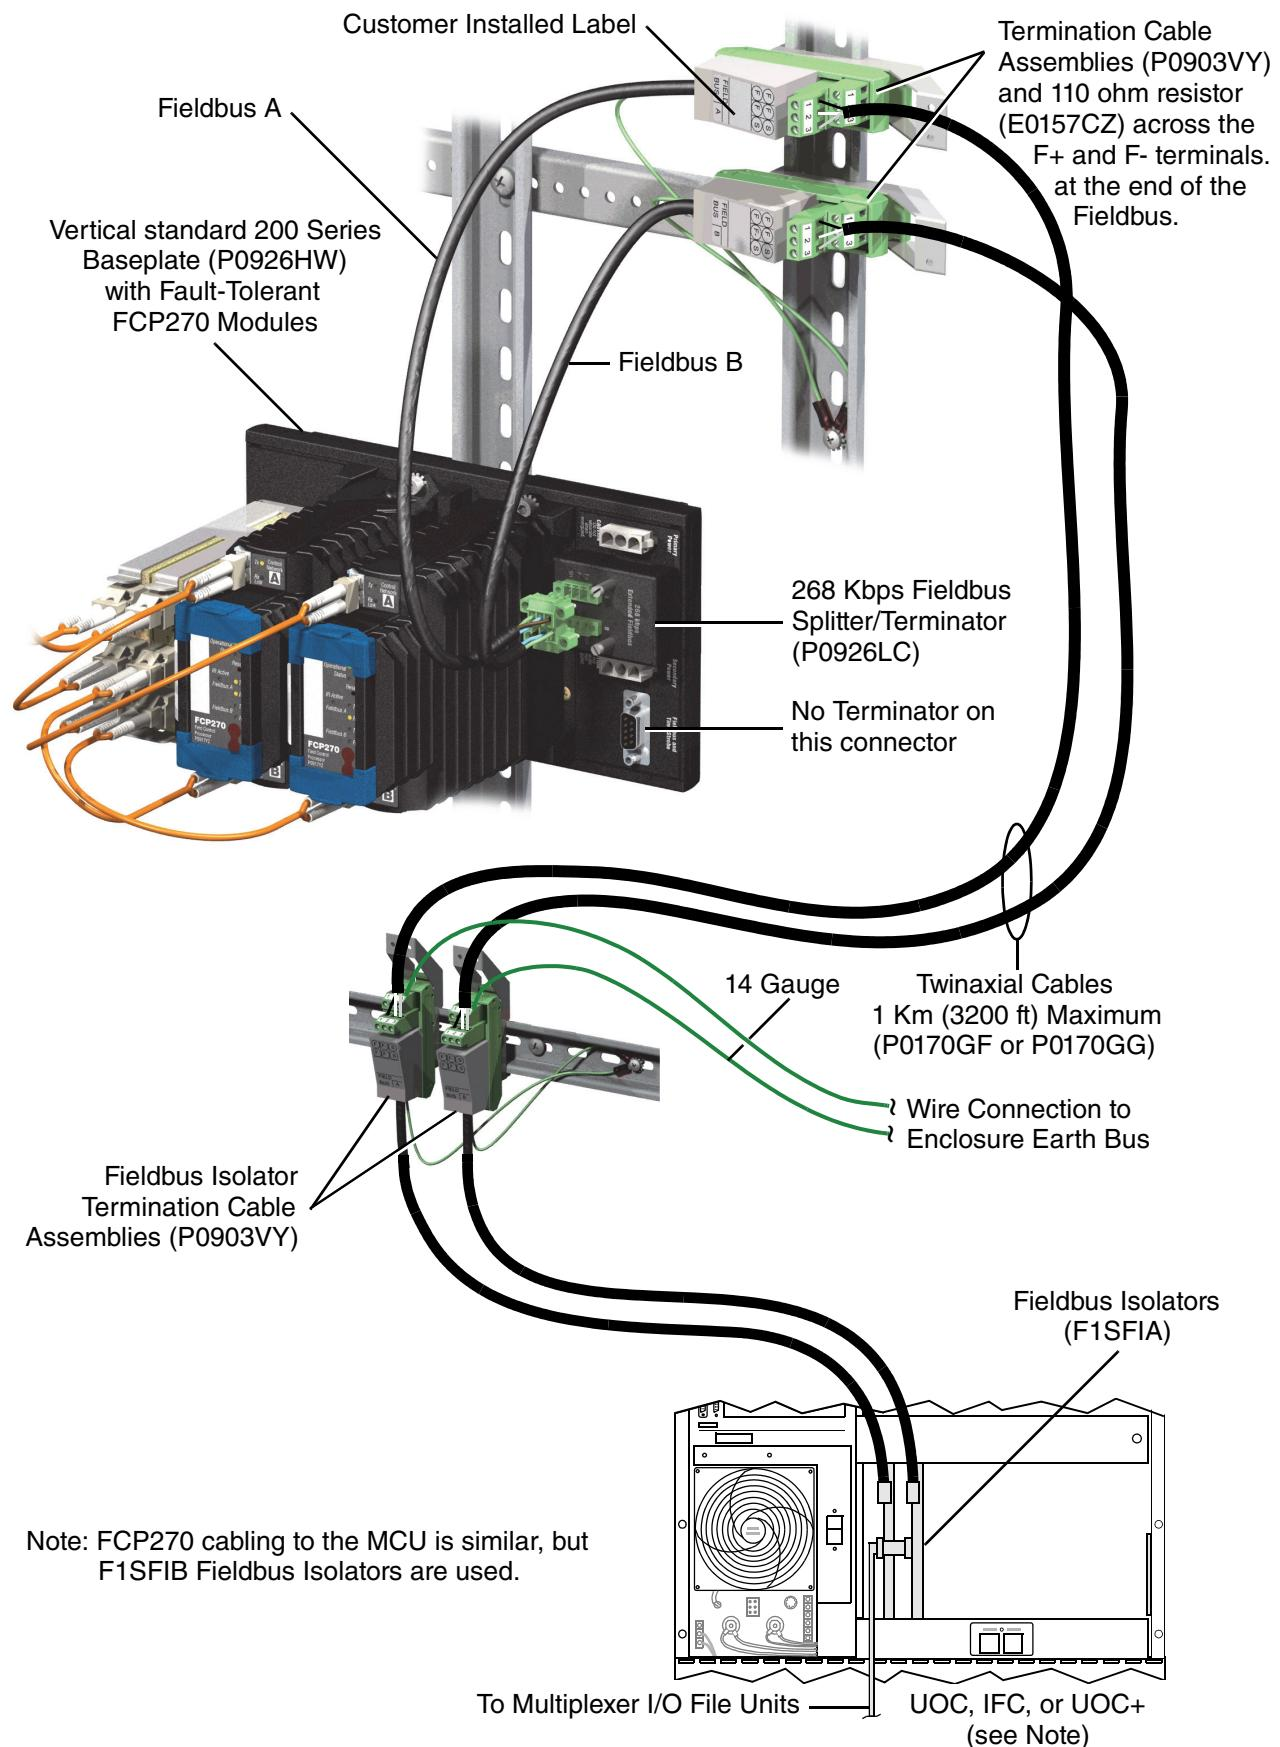
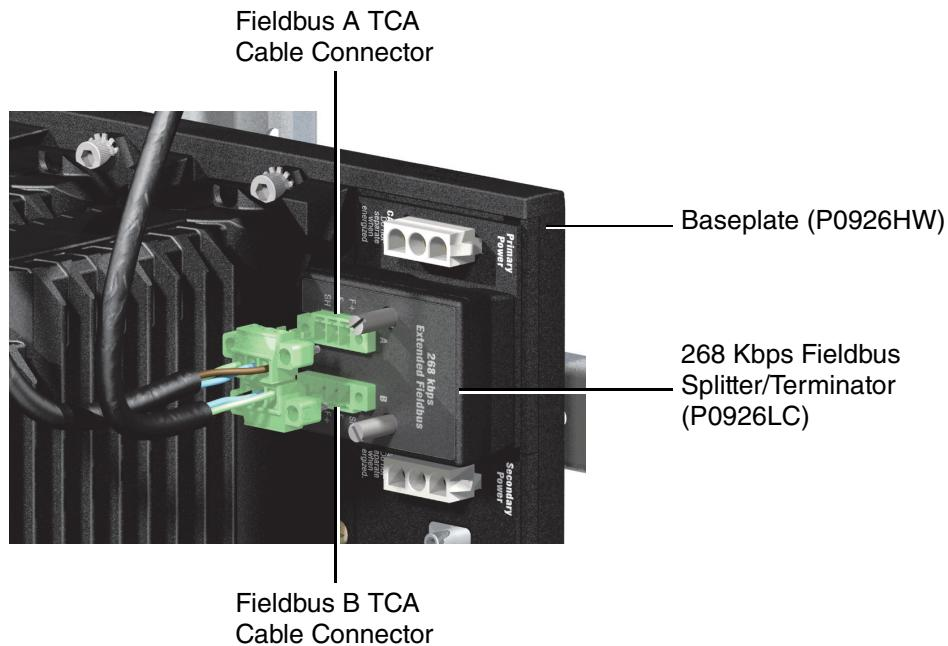

Figure 4-11. Cabling Fieldbus Isolator Cards to an FCP270 Baseplate
Figure 4-12. TCA Cable Connection to 268 Kbps Fieldbus Splitter/Terminator
2. Install terminating resistors at both ends of the extended fieldbus cable. For the last TCA in the fieldbus, install the termination resistor between terminals 1(F) and 2(F-) and the The earth (ground) wire (14 Gauge) must connect to terminal 3(S) as shown in Figure 4-11.
Cabling an FCP270 baseplate to the Fieldbus Isolators (F1SFIA or F1SFIB) consists of extending the remote 268 Kbps fieldbus from the isolators (see Figure 4-11). This extension, used between enclosures, involves the use of termination cable assemblies (TCAs) and twinaxial cable to provide cable connections between primary and extended fieldbus segments, for a maximum fieldbus length of 1 Km (3200 ft). If the fieldbus is non-redundant, only one TCA is connected to the fieldbus splitter/terminator (P0926LC) which is shown in Figure 4-12. TCA part number P0903VY includes a strain relief bracket, nylon cable tie, labels for bus A and B, and 110 ohm terminating resistor. You must install the label to the TCA.
2. Connect the fieldbus splitter/terminator (P0926LC) to the “Fieldbus and Time Strobe” connector on the FCP270 baseplate (see Figure 4-11).
3. Make the cable connection(s) to the fieldbus splitter/terminator as shown in Figure 4-12.